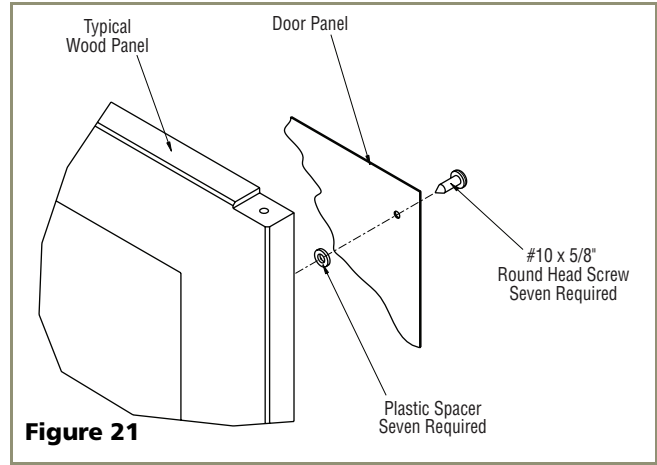

Figure 21
3. Attach the door panel to the overlay panel using #10 x 5/8" wood screws and nylon spacers. The nylon spacers fit between the overlay panel and the door panel as shown in **Figure 21**. The spacers allow the original door panel to slide back into the 1/4"-thick door reveal (channel).
Note: If door is adjusted correctly, but panel is not square with the adjacent cabinets, slight adjustments can be made by drilling the holes in the vinyl coated steel panel slightly oversized. See **Figure 21** on **Page 10**.